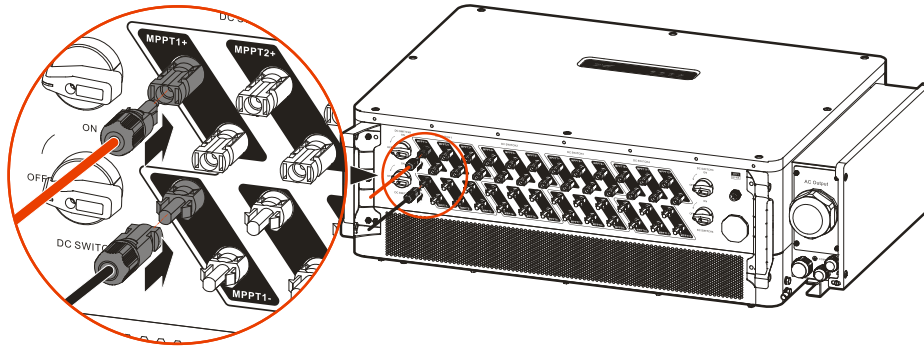

Figure3-41 Connect DC terminal
- Step 3 Insert the positive and negative connectors respectively into the MPPT "+" and "-" terminals on the bottom of the inverter (as shown in Figure3-41). When you hear a click, it means that complete.